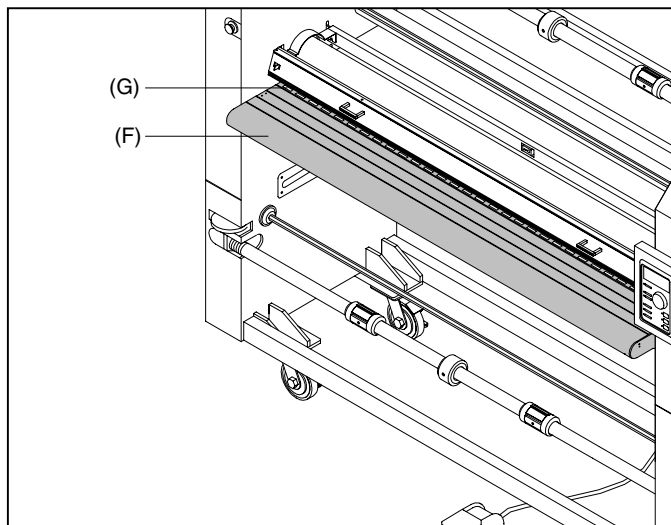

Fig. 12
F. FEED TABLE: (Figure 12) The Feed Table is used to position items for lamination. To pivot the feed table, remove the safety shield, lift up on the feed table, pull back, then carefully lower. **The laminator will operate only when the Feed Table is properly installed.**
G. VACUUM: (Figure 12) The vacuum is used to assist in keeping the material flat against the feed table as it is introduced into the heat rollers. This feature can be controlled from the control panel.